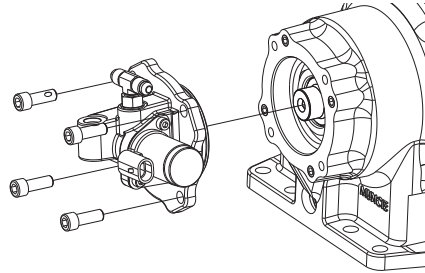

Figure 1 – Bearing Cover Removal
1. Remove the input gear (32) by removing the set screw (34) in the mounting pad and driving the input shaft (30) from the housing (37).
2. Next remove the bearing cover (51) by removing the hose assembly (40) from the tee fitting (47) using a  $\frac{9}{16}$ " wrench.
3. Remove the four socket capscrews (50) from the bearing cover (51) using a  $\frac{5}{16}$ " Allen wrench. Remove the bearing cover from the PTO housing. *See Figure 1*